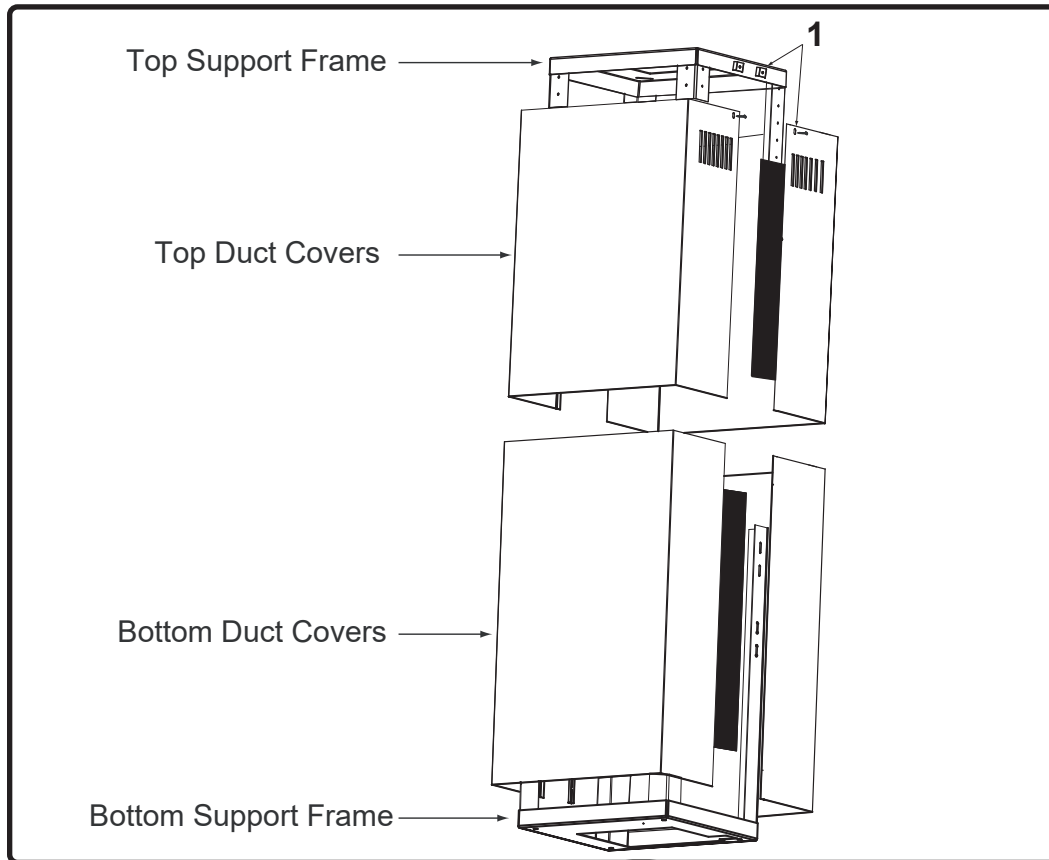

FIG. 1
16. Secure top duct covers to top support frame by using (4) 3/16 x 1/4 screws (2 screws for each top duct cover). (FIG. 1).